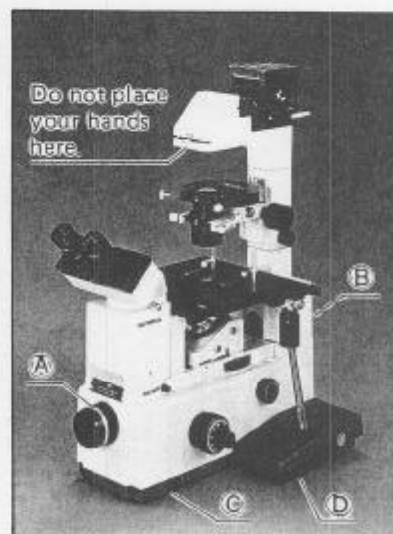

Fig. 1
- ① As a microscope is a precision instrument, always handle it with the care it deserves, and avoid abrupt motions and shocks.
- ② To lift the microscope from the packing case, hold it at the OM mount (A) and the fluorescence illuminator mounting thread (B). (Fig. 1)
- ③ To move the microscope